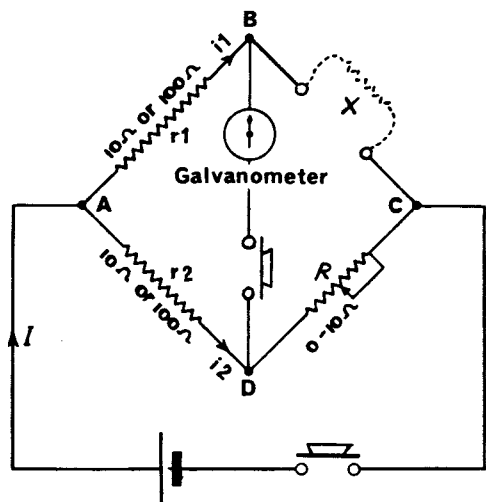

Fig. 21.9 Simple Bridge System for Resistance Measurement
A simple practical example of the Wheatstone Bridge principle to resistance measurement is shown in Fig 21.9. The 'bridge' comprises a pair of 'ratio arms' (r_1 and r_2), a pair of terminals to which the resistance under test (X) is connected, and a variable resistance (R). The points B and D , which are at the same